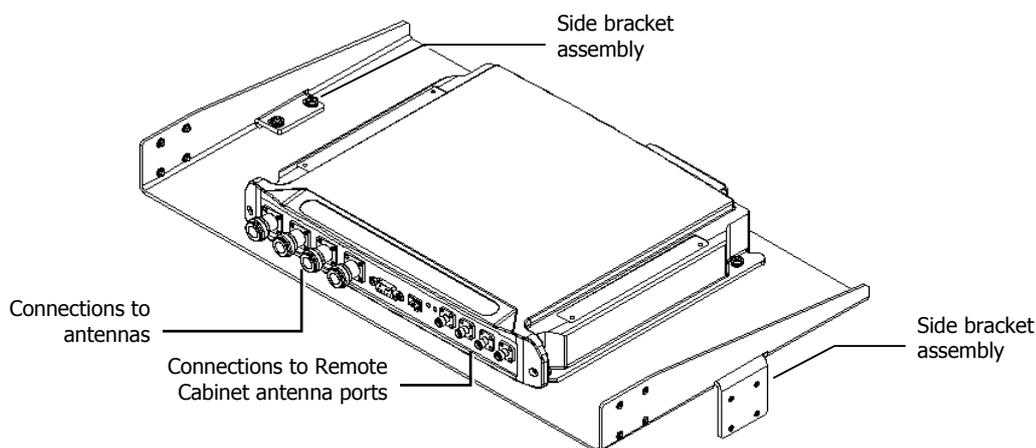

Figure 3-10. MA 850 Rack Installation
1. Assemble two side brackets to the plate sides as illustrated in Figure 3-10.
1. Assemble the side brackets as illustrated in Figure 3-10.